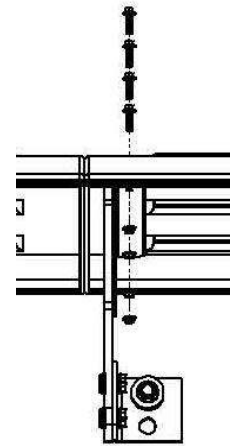

Figure 12
D. Drill four 5/16" holes through the fender using the holes in bracket PB5071 as a guide (Figure 12).